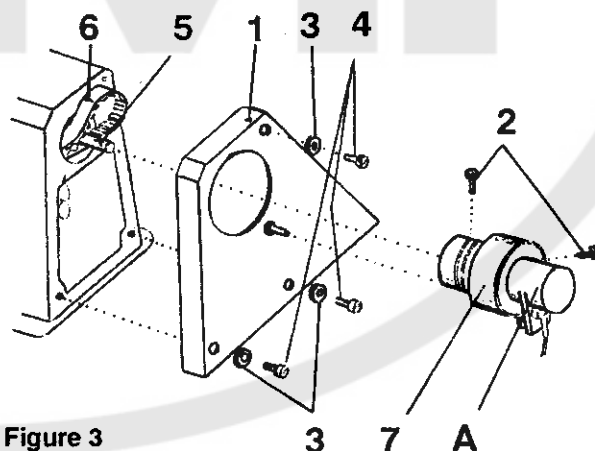

Figure 3
5. V-belt and its tension (Fig. 3)
15. To take off mount the drive belt (Fig. 3)